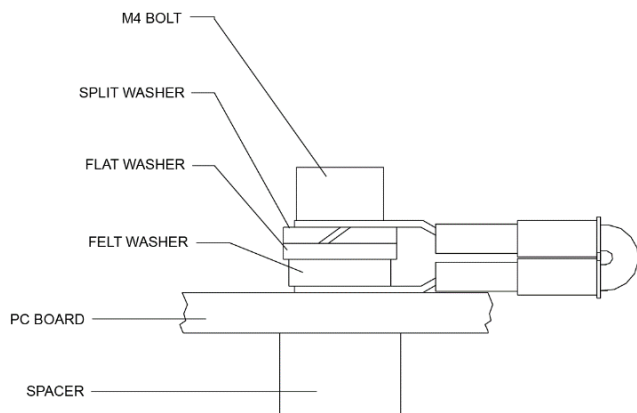
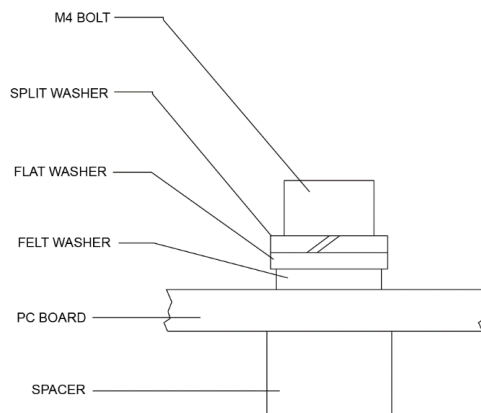

Figure 5. Ground Jumper
Figure 6. Mounting Hardware
2. Remove the four brass thumbnuts from the M4 bolts that secure the Workhorse II boards together. You will be using these bolts to secure the boards in your system. DO NOT change the position of any of the bolts. The bolt containing the felt washers and ground jumper must remain in the same position (see Figure 5 and Figure 6).